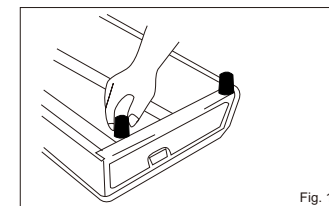

Fig. 10
3. Attach the rubber legs to the cooker by turning the cooker upside down and screwing them into the openings on the cooker bottom.(Fig. 10)